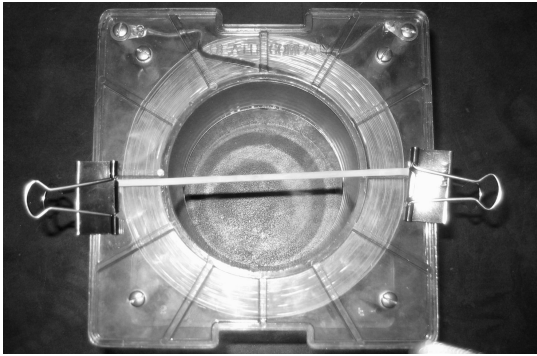

Figure 12.6: Rubber band attached to big coil.
1. Take a length of rubber band and two binder clips from your lab bench. Stretch the rubber band along a diameter of your big coil using the binder clips to secure it in place (see Figure 12.6).